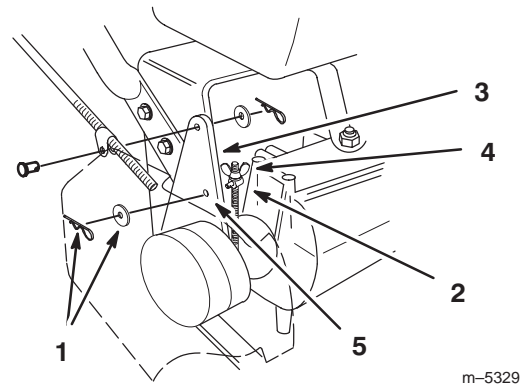

Figure 33
3. To adjust the brake remove the cotter pin and washer from the brake lever (Fig. 33).
4. Rotate the trunnion so it smoothly slides into brake lever hole "F" (Fig. 33). Tighten wing nut.
5. Secure trunnion to brake lever with washer and cotter pin (Fig. 33).